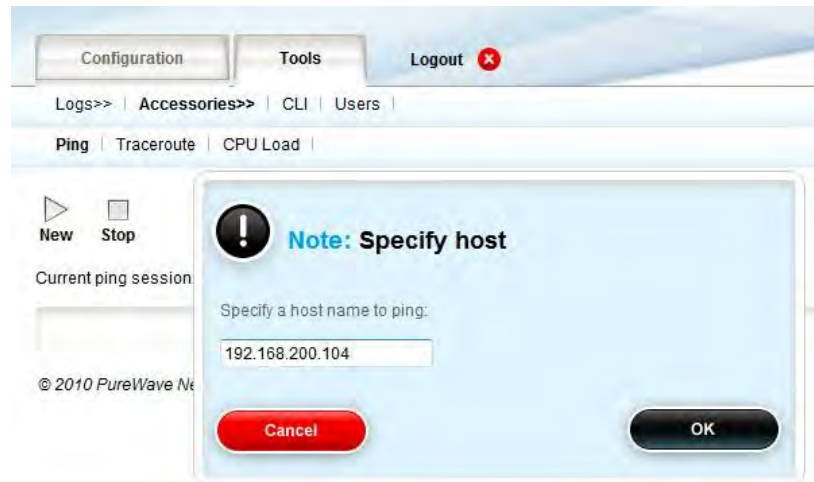

Figure 27 The Accessories Ping Command
2. A pop-up window will appear, this will enable the User to specify the host (Figure 27)